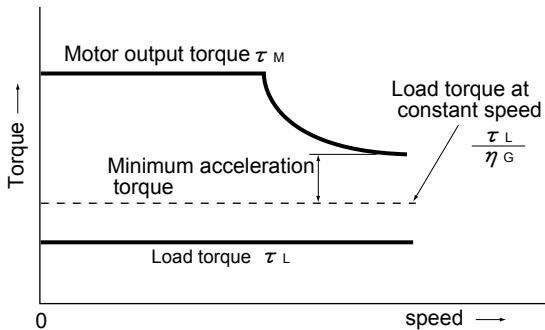

Fig. 4.4 Example study of minimum acceleration torque
**② Calculate minimum acceleration torque. (See Fig. 4.4)**